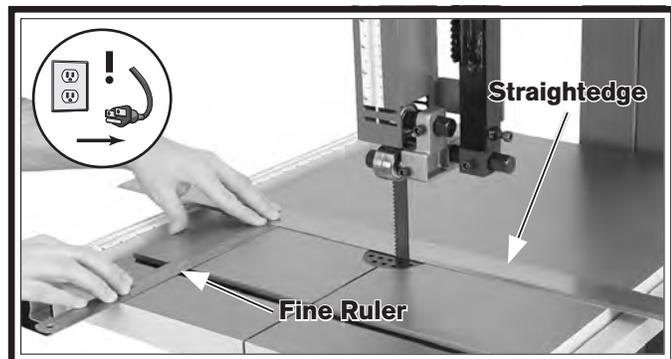

Figure 44. Example of checking miter slot parallelism.
3. Place an accurate straightedge along blade so that it lightly touches both front and back of blade without going across a tooth (see **Figure 44**).
4. Use a fine ruler to measure distance between straightedge and miter slot (see **Figure 44**). Distance should be the same at front and back of table.